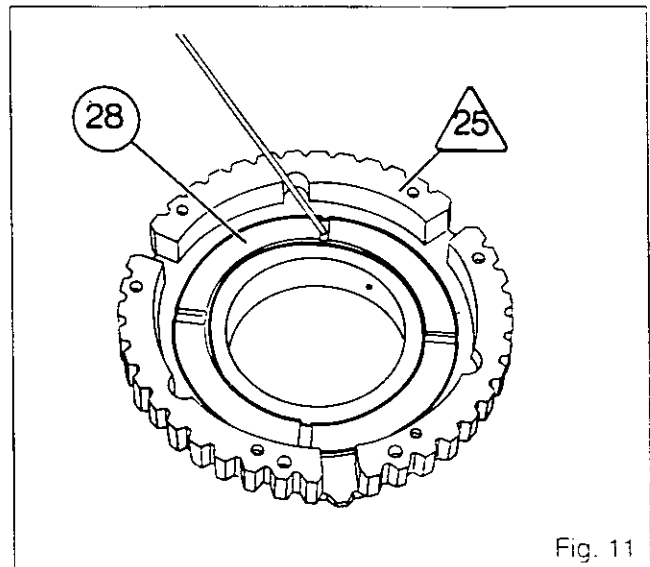

Fig. 11
- 32. Take out splined hub (15).
- 33. Take out pressure plate (41), disc (42), spring washer (43), pressure plate (44), disc (45), spring washer (46) and pressure plate (47).
- 34. Withdraw piston (28) from cover /25\ (Fig.11).
- 35. Remove O-rings (26) and (29) and discard them.
**N.B. : In the supper creeper version, cover /25\ and piston (28) differ from those in the 30 and 40 km/h versions. The cross-sectional area of the piston is greater and this means that the diametric cutouts in the cover are larger.**